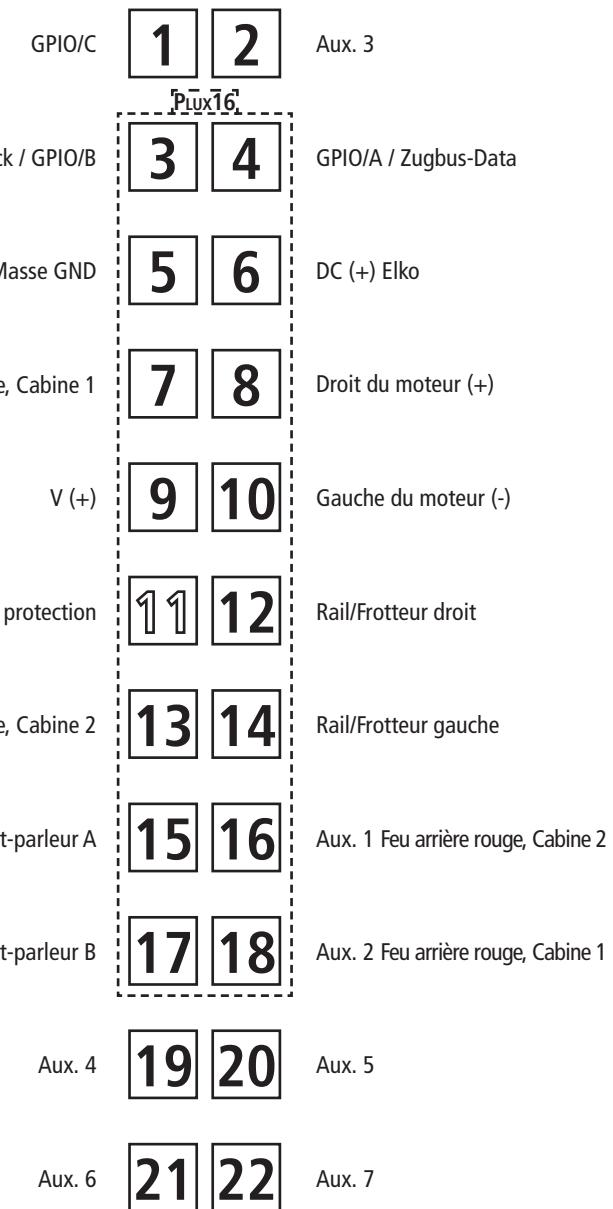

Fig. 6
**3. Change of traction tyre:** Remove the gear cover (fig. 6). Take out **wheel set** and remove **traction tyre** using a pin or a fine screwdriver. When pressing on the new traction tyre please **avoid twisting it**.